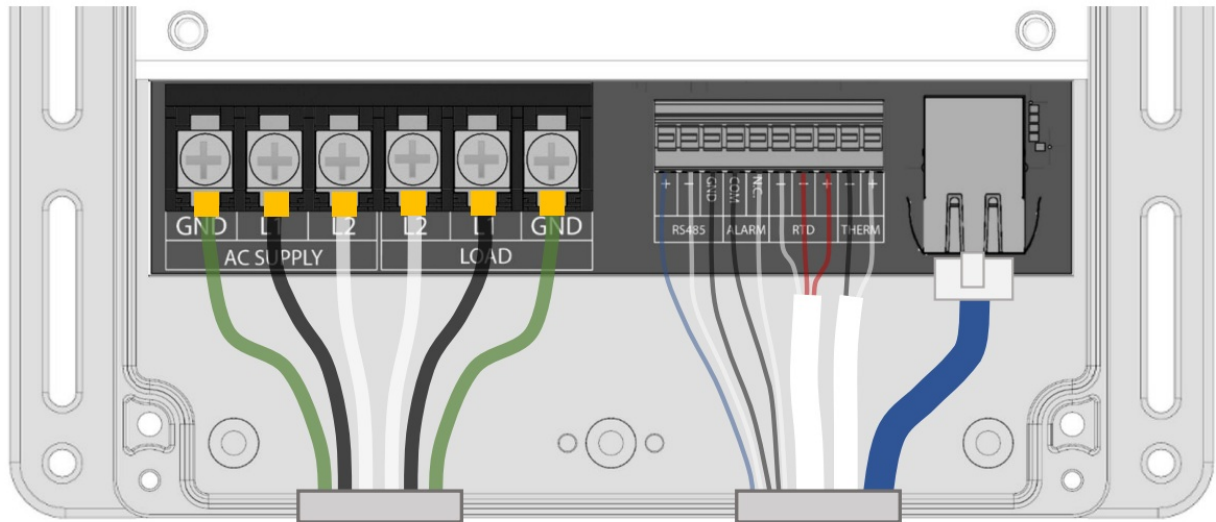

Figure 3: Top view of the Frio S1 controller with the wiring cover removed, showing all possible wiring connections.
1. With the controller mounted and both the clear cover and the wiring cover removed, connect low voltage sensor and communications wires according to the image in Figure 3. Always ensure the system is de-energized before making any wiring connections.
3. Connect heat trace leads to the LOAD side as shown in Figure 3. The ground sheath of the heat trace must be connected to the ground terminal on the controller.
4. Connect the power leads to the AC SUPPLY as shown in Figure 3. The ground connection on the controller must be properly connected to the ground following local and national electrical codes.